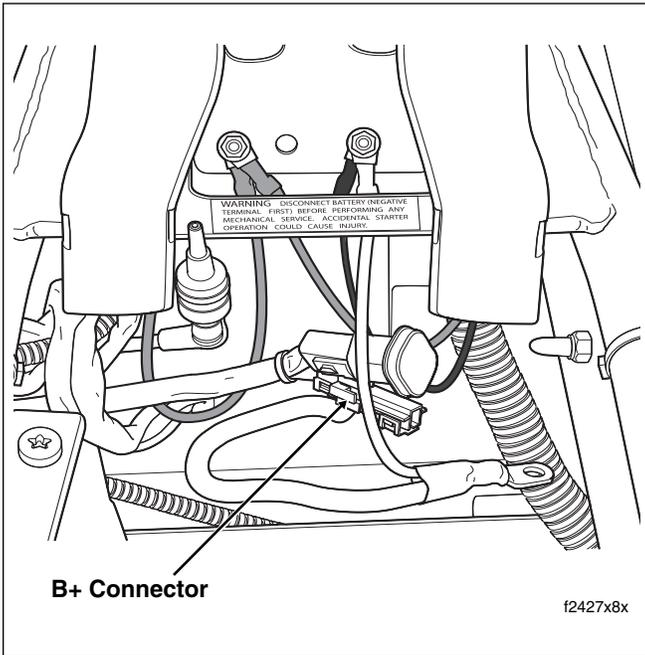

Figure 8-23. Remove Seat
5. Cut anchored cable strap to release accessory connector and B+ connector from left side of frame crossmember (in front of battery box). See Figure 8-23.
6. Install **new** anchored cable strap in lower hole on left side of frame crossmember (in front of battery box). Tighten cable strap to capture conduit of both accessory connector and B+ connector approximately one inch from connector housings. See Figure 8-23.